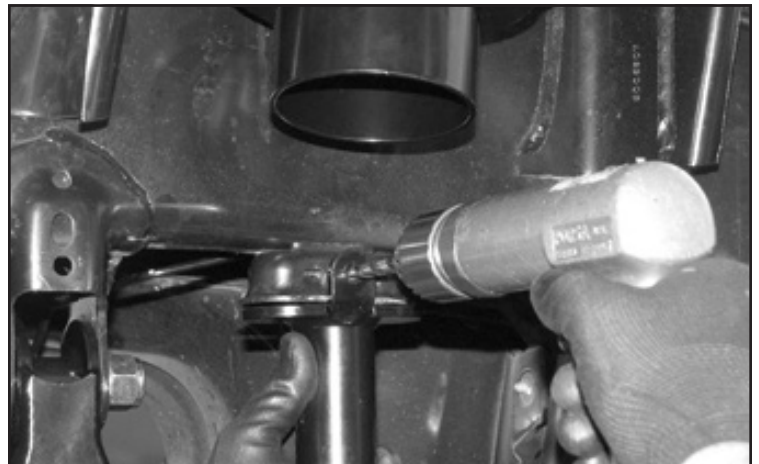

FIGURE 20 - STEP 26
26. Using the outer tab on the bump stop as a drill guide, drill a 5/16" hole all the way through the factory bump stop mount. **SEE FIGURE 20**